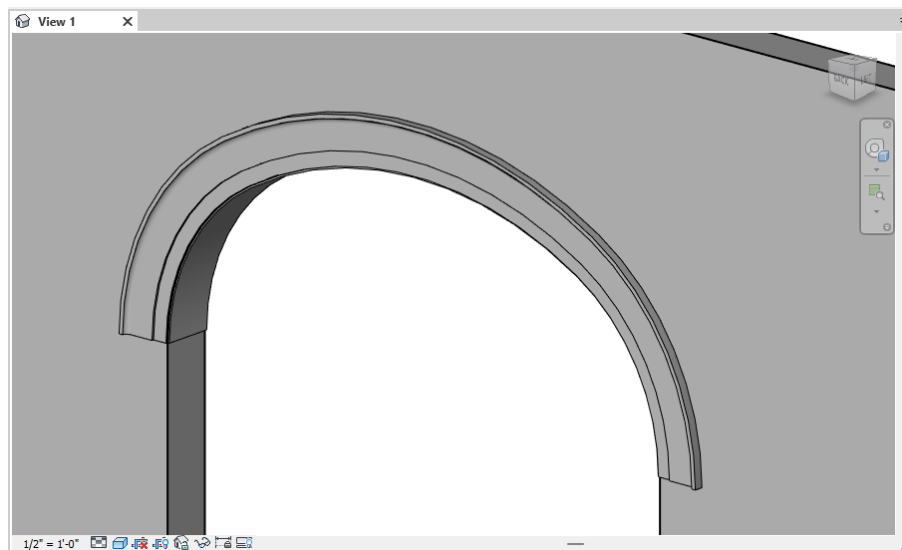

Figure 64—Add the remaining arch sweeps
- ⇒ Create two more sweeps. Pick the same path for each one (using Temporary Hide/Isolate inbetween). Use the settings shown in Table 5 and Figure 64.